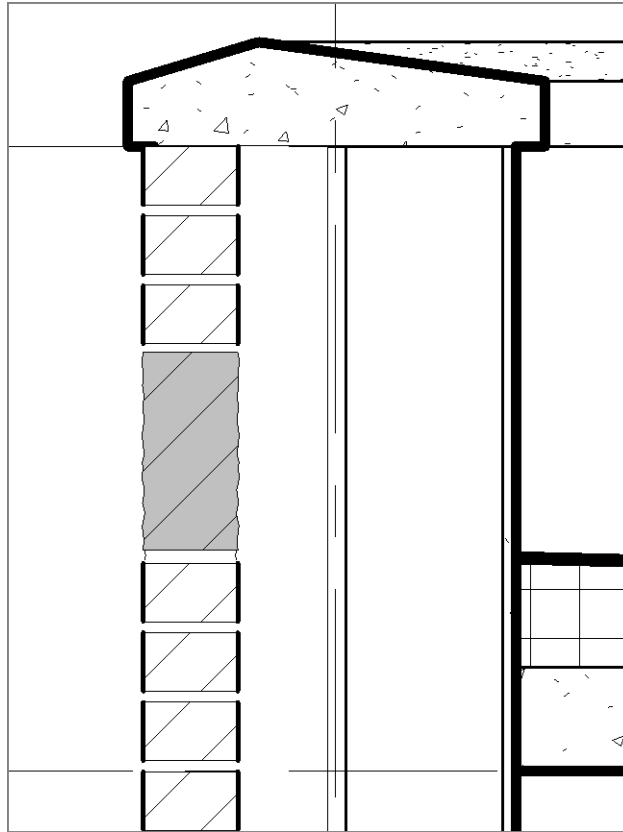

FIGURE 12.32: The new soldier brick in the model
23. Delete the extra brick. Your wall should look like Figure 12.32.